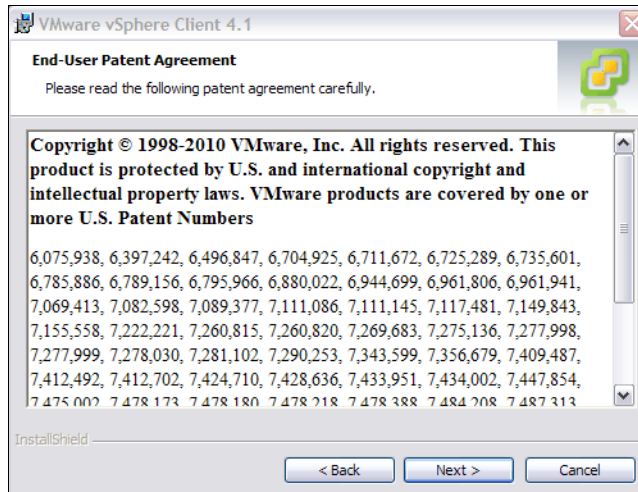

Figure 22-42 VMware vSphere Client End-User Agreement
6. In the End/User Patent Agreement window (Figure 22-42 on page 683), click **Next**